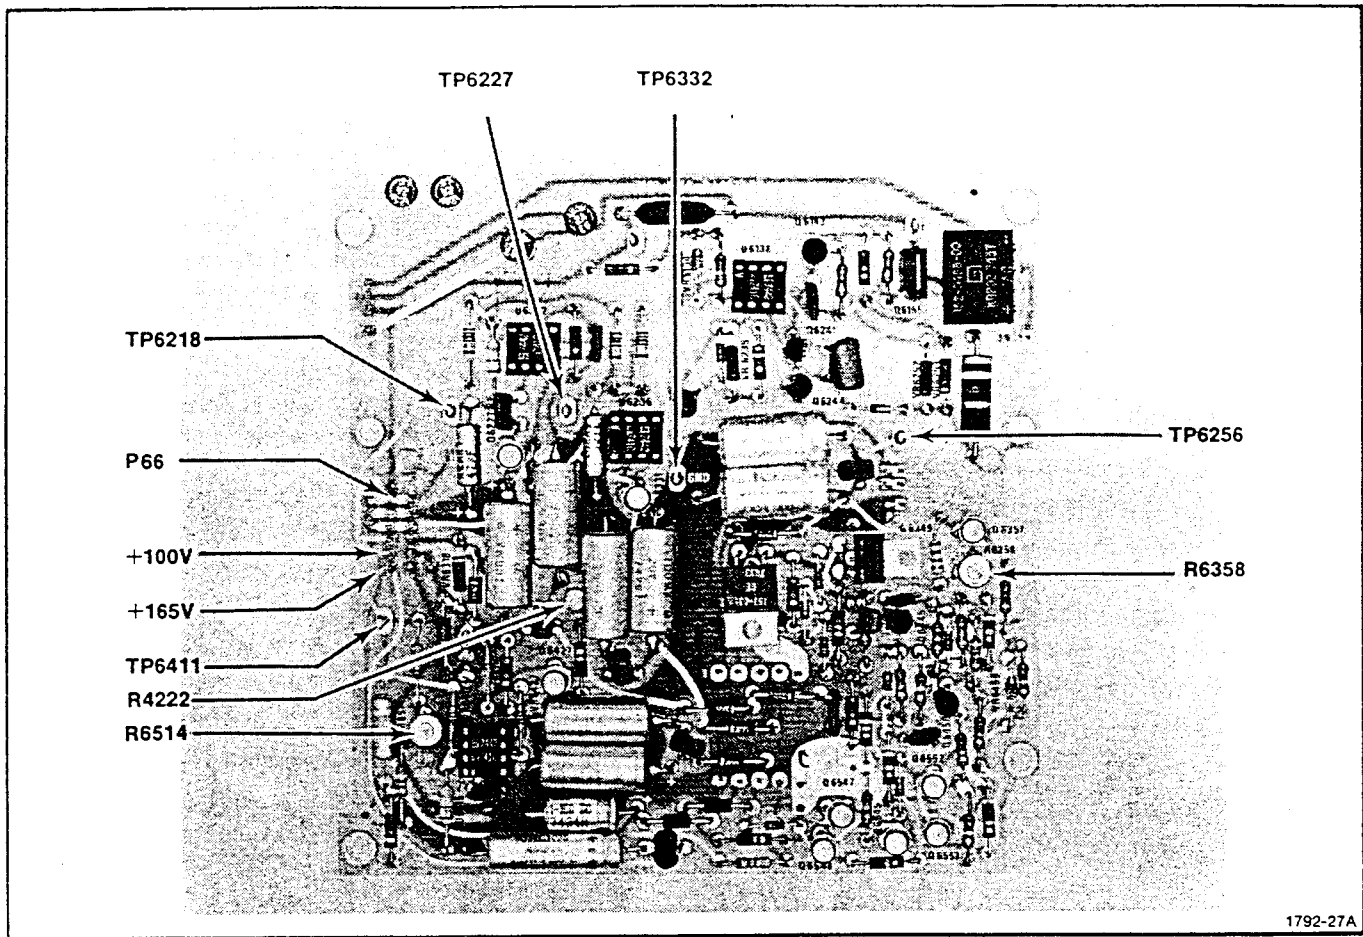

Fig. 4-9. Power Supply Test Points
- D. Connect the HI lead (red) from the DM502 to the yellow test point (TP6131) on the power supply board (see Fig. 4-9).
- E. Connect the LO lead (black) from the DM502 to the black test point (TP6332) on the power supply board (see Fig. 4-9).
- J. Connect the HI (red) lead from the DM502 to the violet test point (TP6411 - see Fig. 4-9).
- K. Adjust R6514 (+10 ADJ - see Fig. 4-9) for an indication of +10.0V on the DM502.
- D. Check Intensity Limit for a reading of 90 - 100mV as indicated by the DM502. Adjust R4222 if necessary. R4222 is on the H.V. board and is accessible through a hole in the power supply board (see Fig. 4-9).